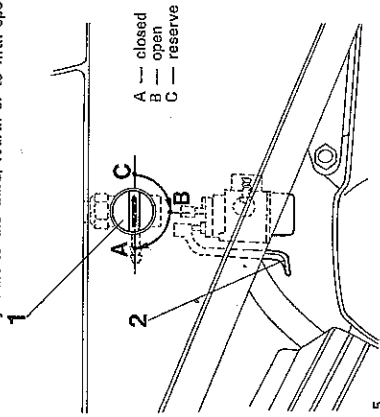

fig. 5
Open fuel feed tap (pos. 1, fig. 5). If the engine is cold, pull the choke lever (pos. 2, fig. 5) upwards. Kick start.
When gearing down, first reduce the throttle opening, press the clutch lever, shift and slowly release clutch lever. To stop, reduce speed by closing the throttle opening and by braking. Press the clutch lever and when the motorcycle stops, shift to neutral gear. Then press the stop button and close fuel feed tap (pos. 1, fig. 5).